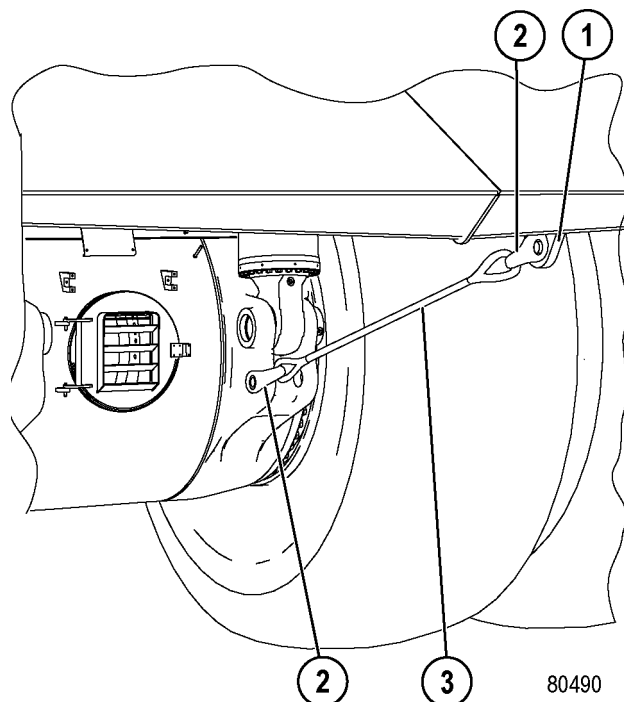

FIGURE 3-1. BODY RETENTION SLING INSTALLATION
2. Install two shackles (2, Figure 3-1) and body retention sling (3) between rear body ear (1) and the axle housing.